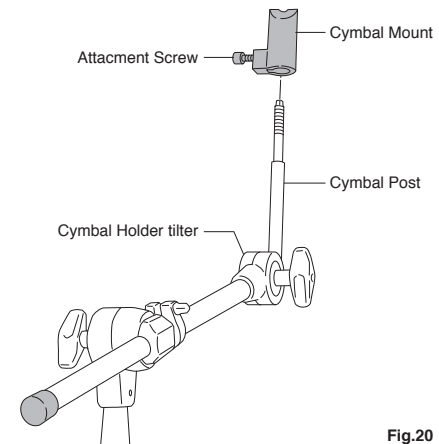

Fig.20
2. Attach the Cymbal Mount onto the Cymbal Post and rotate the Attachment Screw until it's at a right angle to the Cymbal Holder Tilter as shown (Fig. 20).